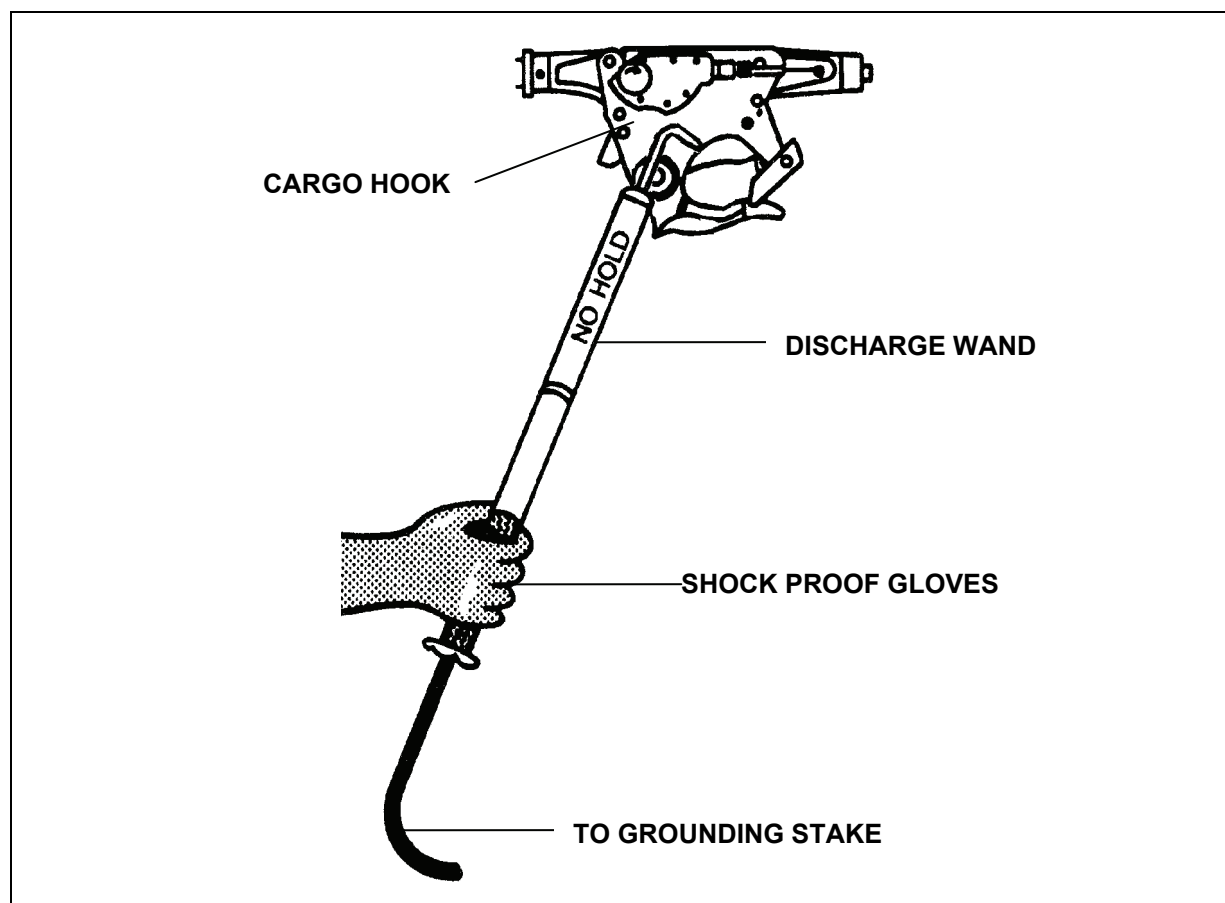

Figure 3-4. Static Discharge Wand Positioned on Aircraft Hook
- Do not hold the discharge wand within 16 inches of the metal hook end. A strong static charge can jump up to 12 inches. To be effective, the grounding wand must maintain contact with the cargo hook during the hookup operation (Figure 3-4). If contact is lost, all personnel will pull back from the hook until contact is reestablished between the wand and the aircraft's cargo hook.